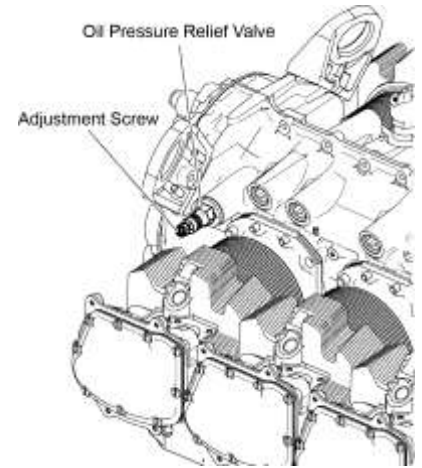

Figure 1
NOTICE: There is an adjustment screw (Figure 1) on the oil pressure relief valve housing. Rotation of this screw either increases or decreases the oil pressure to keep it within the specified operational limits in Appendix A of the *TEO-540-C1A Engine Installation and Operation Manual*.
- To **increase** oil pressure, turn the pressure adjustment screw on the oil pressure relief valve **clockwise** (Figure 1).